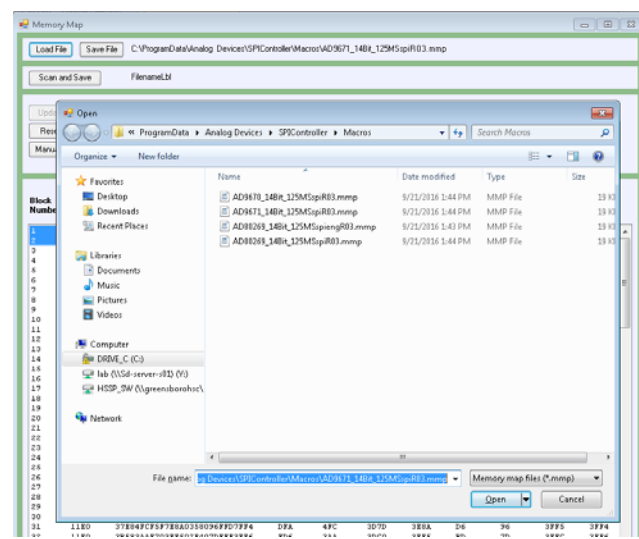
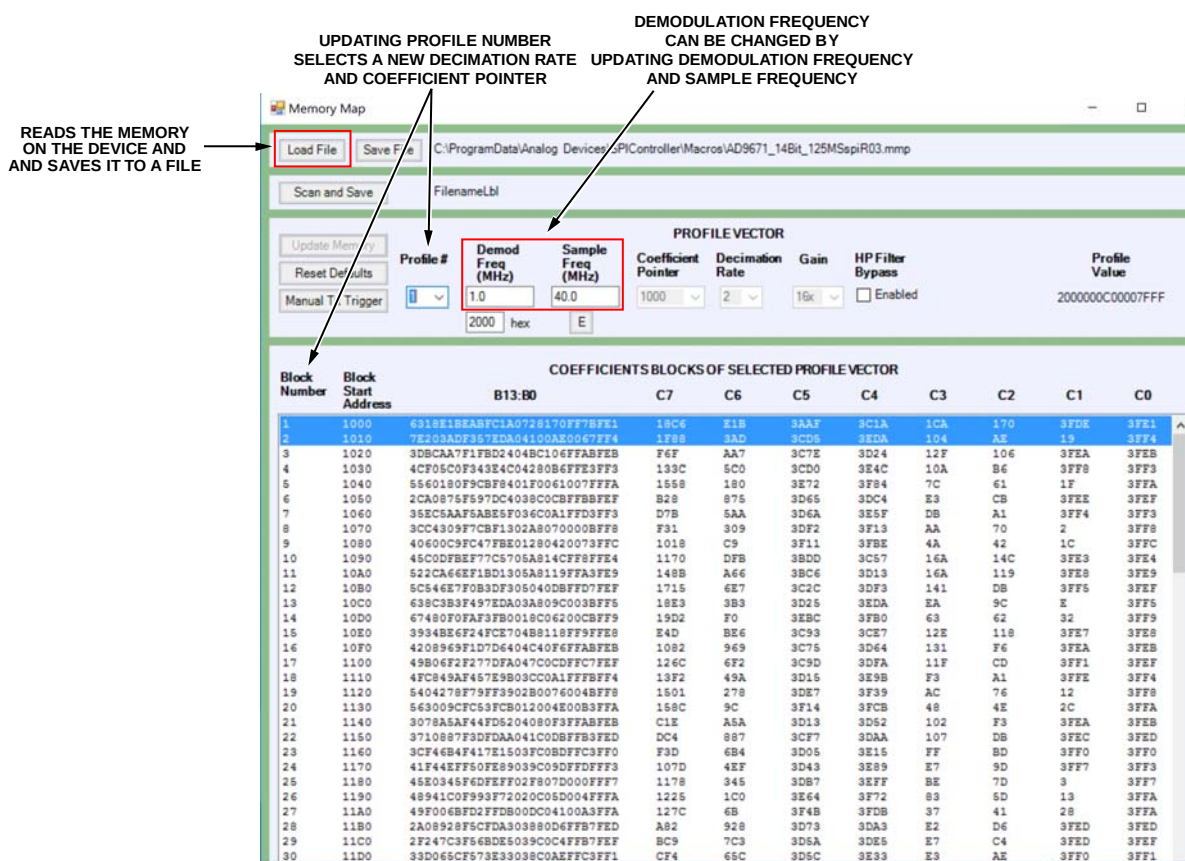

Figure 9. Memory File Select Dialog Box
Figure 11. Memory Map
9. On the **Config** menu at the top of the **SPIController** window, click **Launch Memory Map Dialog**. This command starts the memory map shown in Figure 11, as well as a way to select prestored demodulation and decimation profiles. Click **Load File** to open the file **Open** dialog box, and select the **AD9671_14Bit_125MSpiR03.mmp** file to load the coefficient and profile memory onto the **AD9671** (see Figure 9).